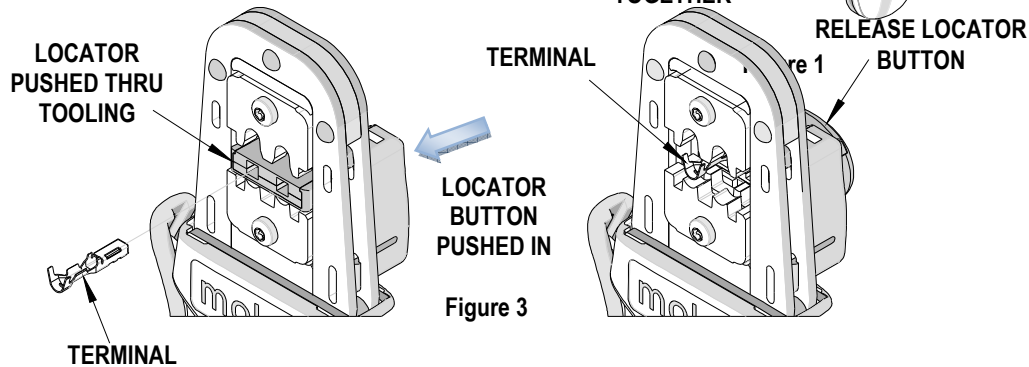

Figure 3
3. While holding the locator button in, load the terminal with the seal into the proper nest opening in the locator based on the wire gauge or terminal type markings on the hand tooling. See Figure 3.